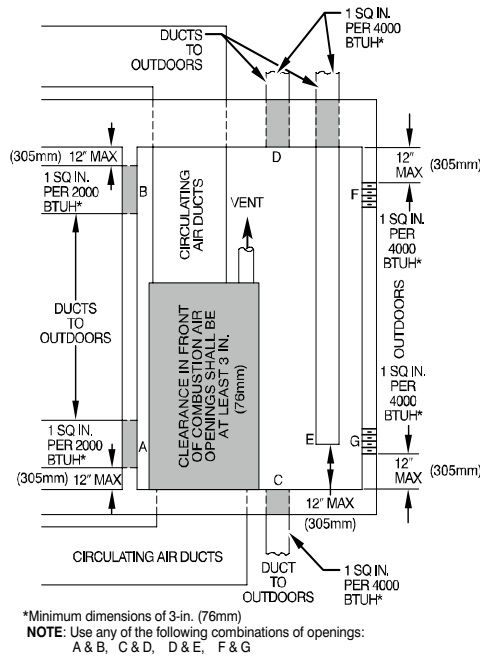

Fig. 6 – Air for Combustion, Ventilation, and Dilution for Outdoors
2. Fig. 6 illustrates how to provide TWO OUTDOOR OPENINGS, one inlet and one outlet combustion and ventilation air opening, to the outdoors.
- b. Size openings and ducts per Fig. 6 and Table 3.
- c. TWO HORIZONTAL DUCTS require 1 sq. in. (645 sq. mm) of free area per 2,000 BTUh (1,100 mm²/kW) of combined input for all gas appliances in the space per Fig. 6 and Table 3.
- d. TWO OPENINGS OR VERTICAL DUCTS require 1 sq. in. (645 sq. mm) of free area per 4,000 BTUh (550 mm²/kW) for combined input of all gas appliances in the space per Fig. 6 and Table 3.
- a. 1 sq. in. (645 sq. mm) of free area per 3,000 BTUh (734 mm²/kW) for combined input of all gas appliances in the space per Fig. 6 and Table 3.